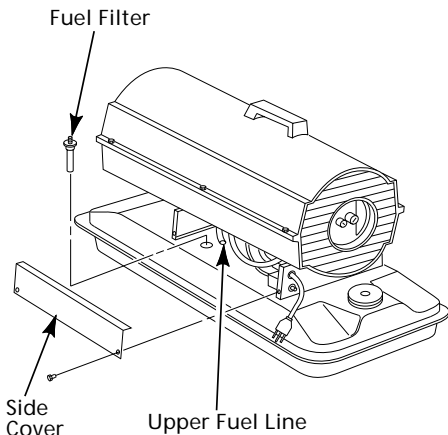

Figure 17 - Fuel Filter Removal, Models 2E510D and 2E511D
3. Pull upper fuel line off fuel filter neck (see Figure 17, page 8).